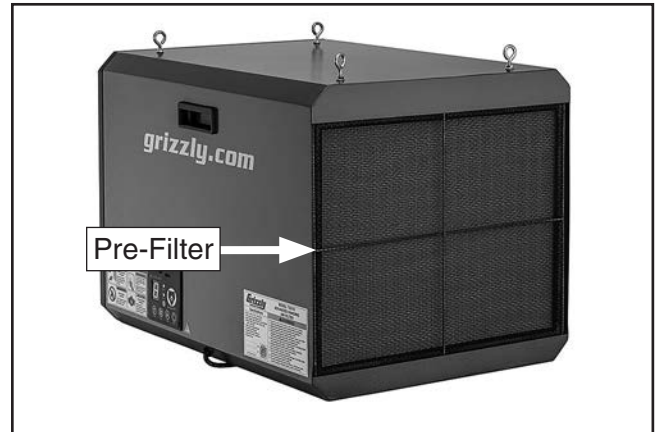

Figure 1. Location of pre-filter.
1. Remove pre-filter from intake side of machine (see **Figure 1**).